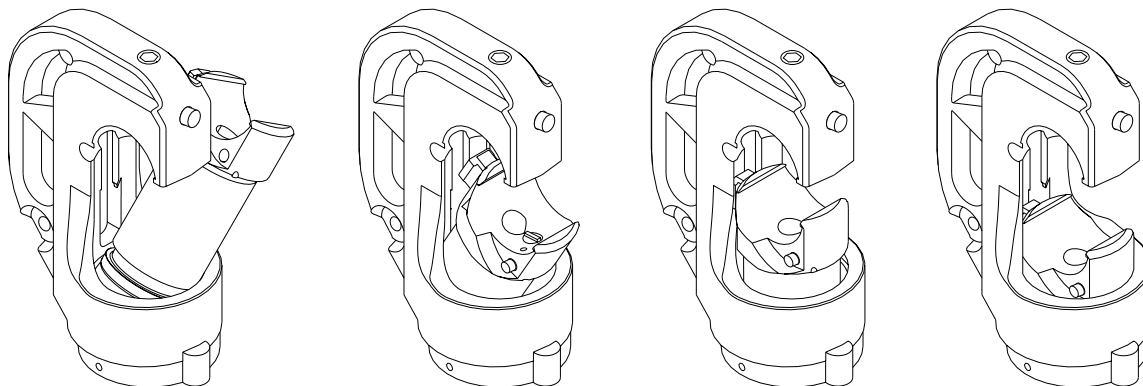

Figure 2
2. Unscrew the crimping head assembly. Tilt and slide the ram through the opening in the C-head. Refer to Figure 2.
3. Tilt and slide the ram through the opening in the C-head. Refer to Figure 2.